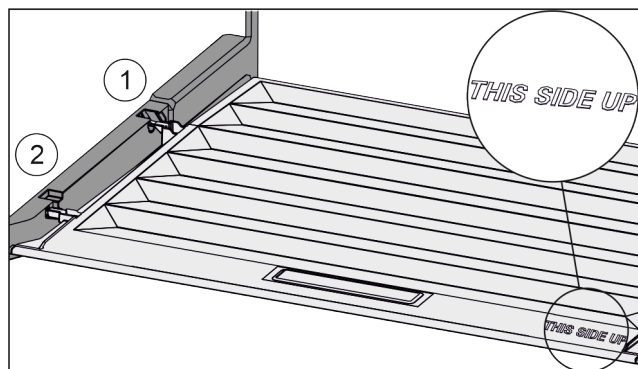

Fig. 116
- ▶ Insert the lip of the cover over the opening of the rear bracket Fig. 116 (1) and click into place Fig. 116 (2).